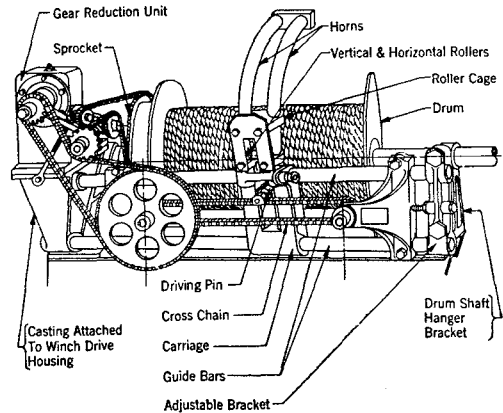

Fig. 1—CH Winch Rope Winder
2.01 The winch rope winders (Fig. 1 and 2) consist of a carriage that is mounted on two guide bars and is driven back and forth across the length of the winch drum by an endless cross chain. The winder is mounted at one end to the winch drive housing and at the other end to the winch hanger assembly.